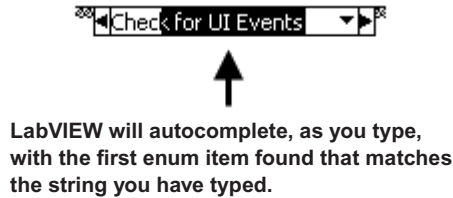

Figure 13.73
8. Make the “Stop” case visible and then pop up on the Case Structure and select **Add Case After**. The new case should be automatically named “Check for UI Events.” If it is not, use the Labeling tool to rename it. Note that LabVIEW auto-completes the case name, as shown in Figure 13.73.